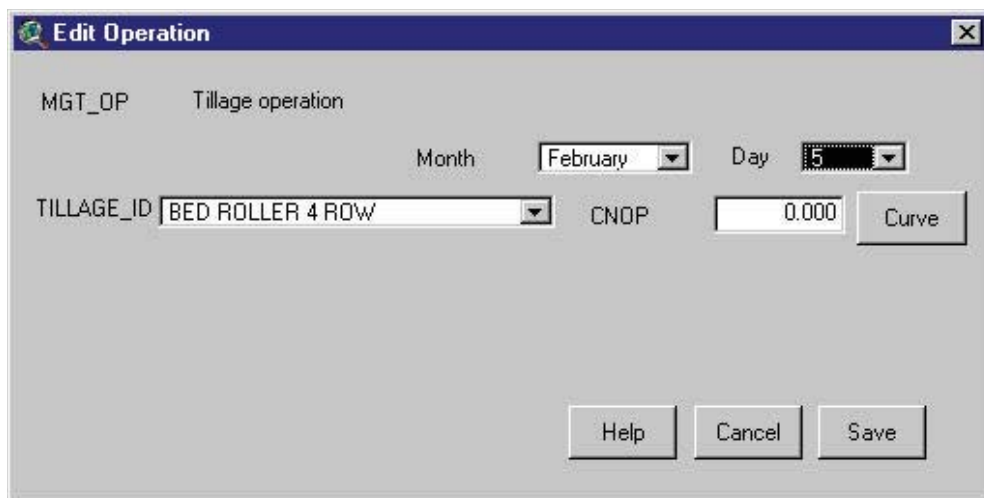

Figure 12.64
- c. An Edit Operation dialog box will be displayed that contains the parameters and defined values for the operation (e.g. Figure 12.64). This dialog box has the same format as the corresponding Add Operation dialog box.